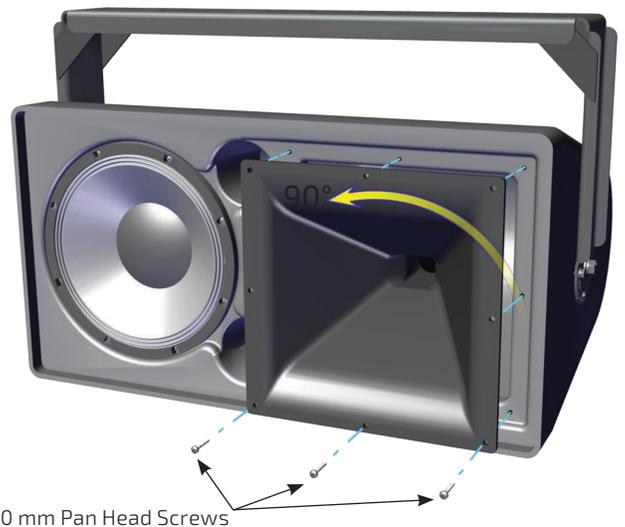

Figure 4. To rotate horn - remove screws, carefully pull horn out, rotate 90°, place horn back in cabinet, and replace screws.
While the horn orientation for the HF section of the WX loudspeakers is determined when the loudspeaker is ordered, if it becomes necessary, the horn can be rotated in the field, offering greater coverage pattern options. Simply remove the grille and the eight (8) screws mounting the horn. Being sure not to twist the HF wiring, rotate the horn 90 degrees and place it evenly back into the cabinet face. Reinstall the horn screws and the grille assembly (See **Figure 4**).